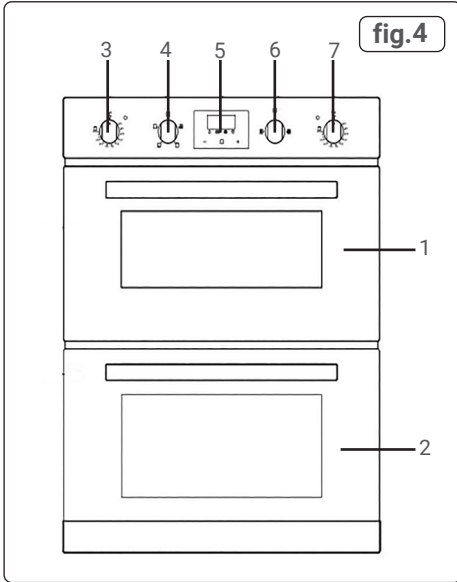

fig.3
- If installing a base panel, leave a space for air circulation as shown in fig.3.